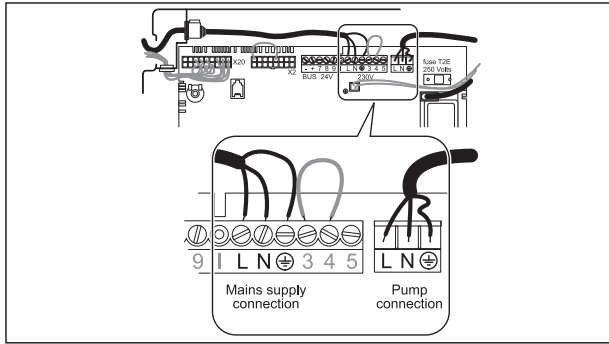

Fig 4.8.1 Mains Supply Connection
- Connect the mains supply to the terminal block, see fig 4.8.1 the pump can be connected directly to the terminal block or alternatively as shown in diagram 4.8.2 .